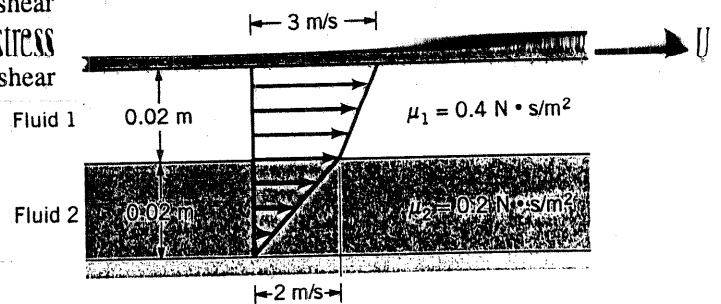

FIGURE P1.54
1.54 As shown in Video V1.2, the “no slip” condition means that a fluid “sticks” to a solid surface. This is true for both fixed and moving surfaces. Let two layers of fluid be dragged along by the motion of an upper plate as shown in Fig. P1.54. The bottom plate is stationary. The top fluid puts a shear stress on the upper plate, and the lower fluid puts a shear stress on the bottom plate. Determine the ratio of these two shear stresses.